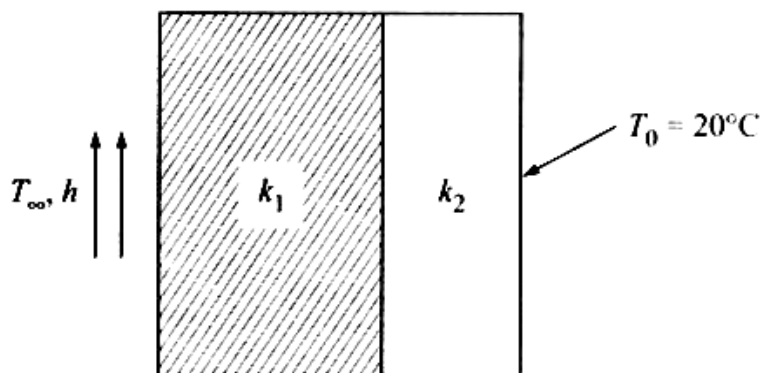

Figure.6
20. (a) Determine the temperature distribution through the composite wall shown in figure, when the convection heat loss occurs on the left surface. Assume unit area. Take wall thicknesses, $t_1 = 4$ cm and $t_2 = 2$ cm; Take properties $k_1 = 0.5$ W/cm $^{\circ}$ C, $k_2 = 0.05$ W/cm $^{\circ}$ C, $h = 0.1$ W/cm 2 $^{\circ}$ C and Fluid temperature as $T_{\infty} = -5^{\circ}$ C. shown in Figure.6 CO5-App (16)